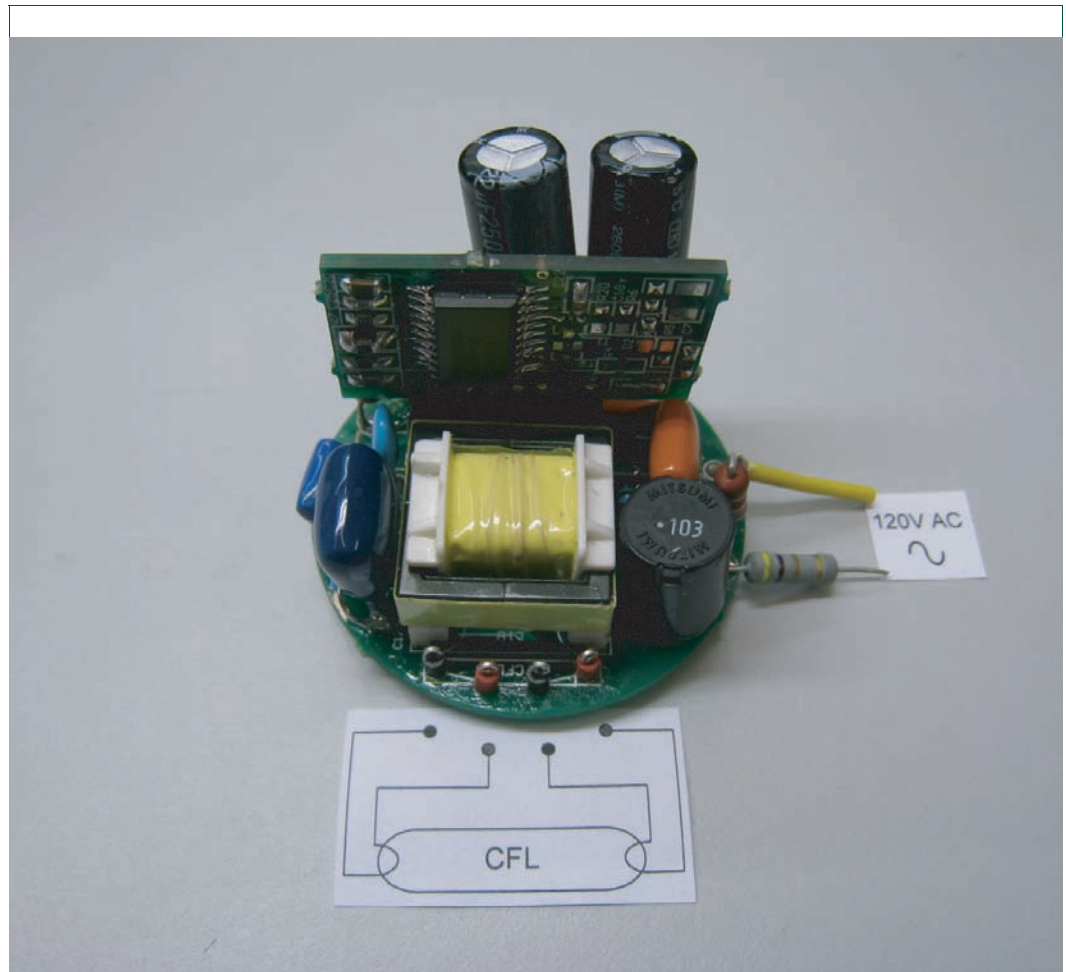

Fig 2. UBA2028 board connections
The 120 V (AC) mains input connection and four CFL connections for the burner is connected as shown below. A fusistor of 2.2 Ω is placed in series with the 120 V mains input. See Figure 2: